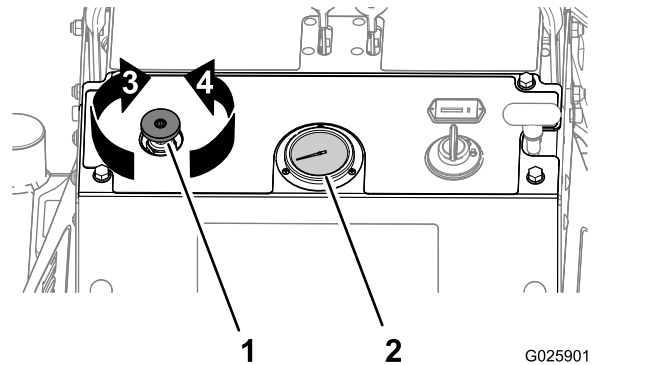

Figure 19
Note: First time use: set the tine-pressure control so that the tine-pressure gauge (Figure 19) indicates 24 bar (350 psi).
- Rotate the tine-pressure control **counterclockwise** (Figure 19) to decrease the downward pressure in order to remove a **shorter** plug.
- Rotate the tine-pressure control **clockwise** (Figure 19) to increase downward pressure in order to remove a **longer** plug.